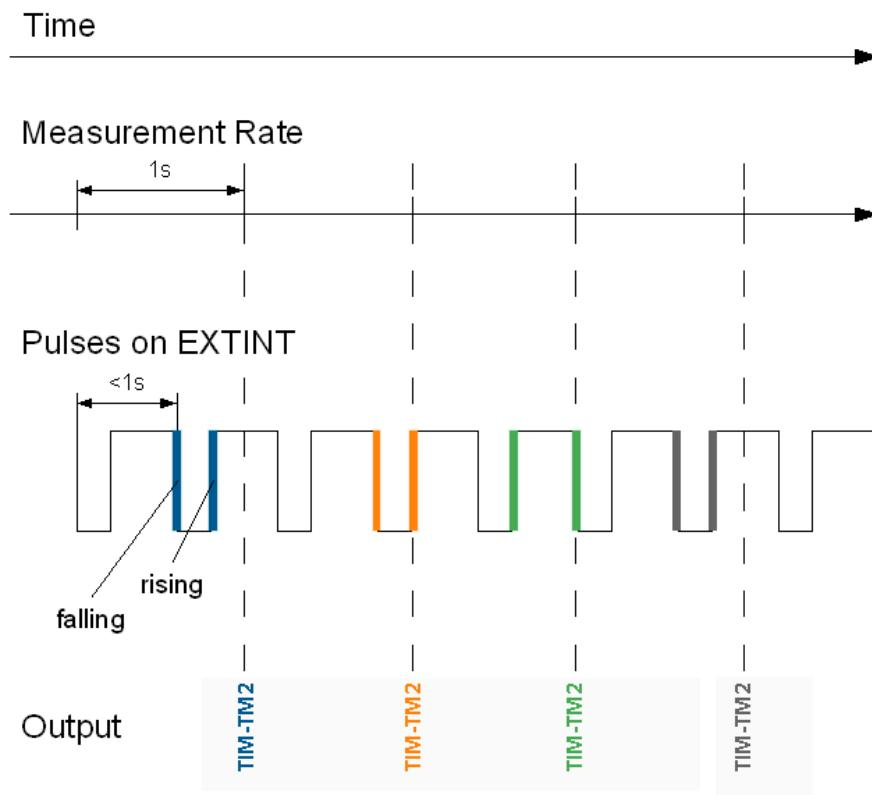

Figure 13: Time mark
-  Only the last rising and falling edge detected between two epochs is reported since the output rate of the UBX-TIM-TM2 message corresponds to the measurement rate configured with CFG-RATE-MEAS (see Figure 13 below).